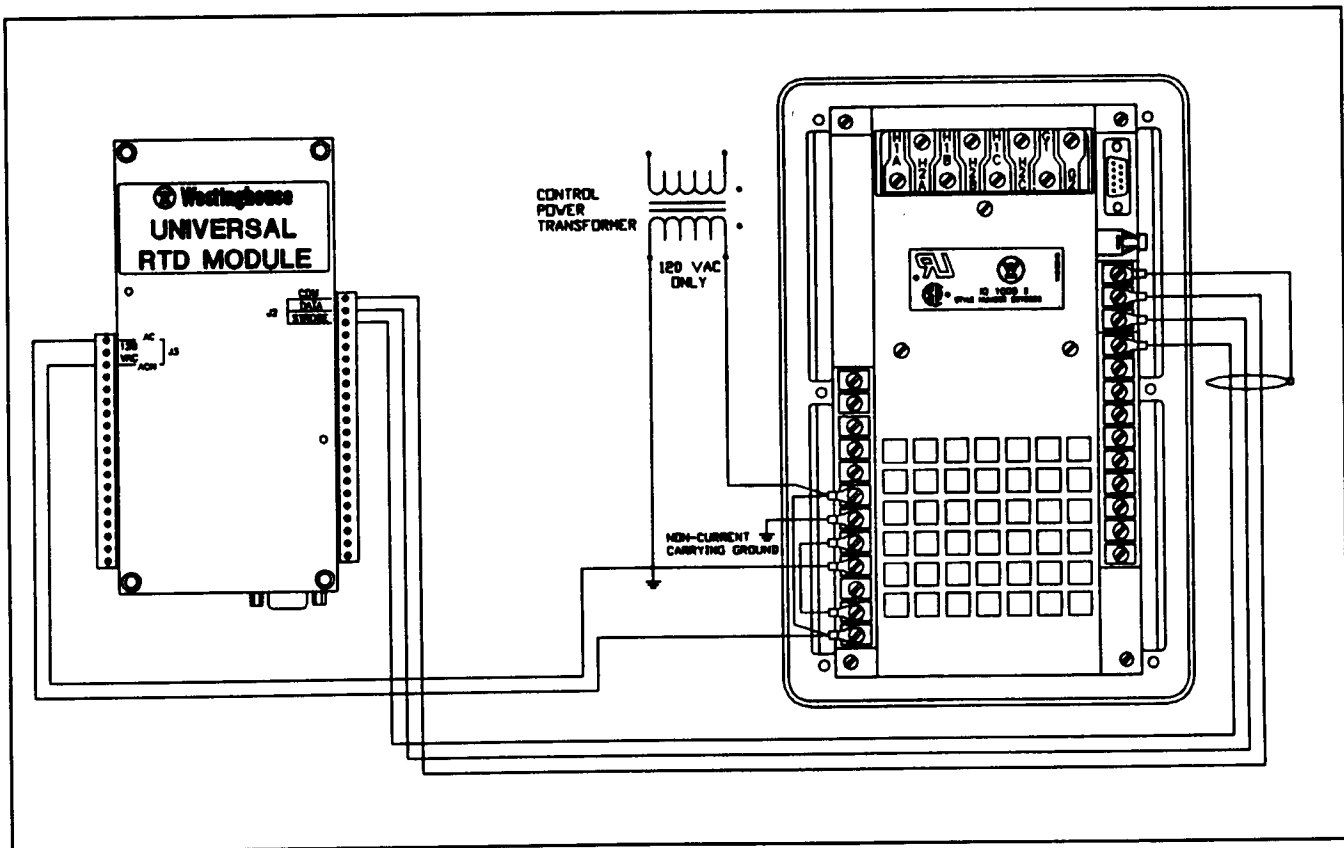

Figure 5.10 — IQ-1000 II to Universal RTD Module Control Wiring
- The Universal RTD Module accepts 120 VAC control power ONLY (see Figure 5.10). If the installation uses 240 VAC control power for the IQ-1000 II, a separate source 120 VAC must supply the Universal RTD Module.